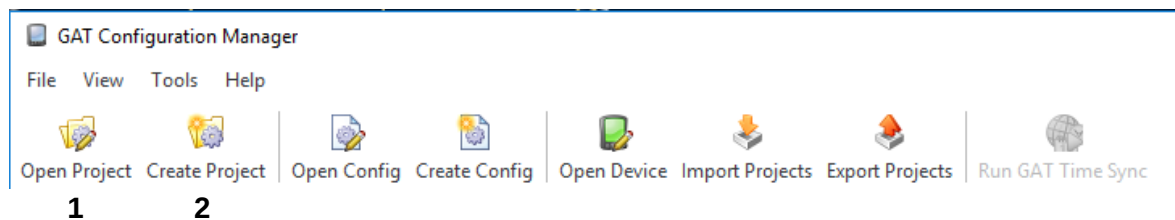

Figure 5.1 – GAT Config Manager – Project setup
- ▶ Click on the "Open Project" icon ("1" in Figure 5.1) to find an existing project.
- ▶ Alternatively, click on the "Create Project" icon ("2" in Figure 5.1) to start a new project.